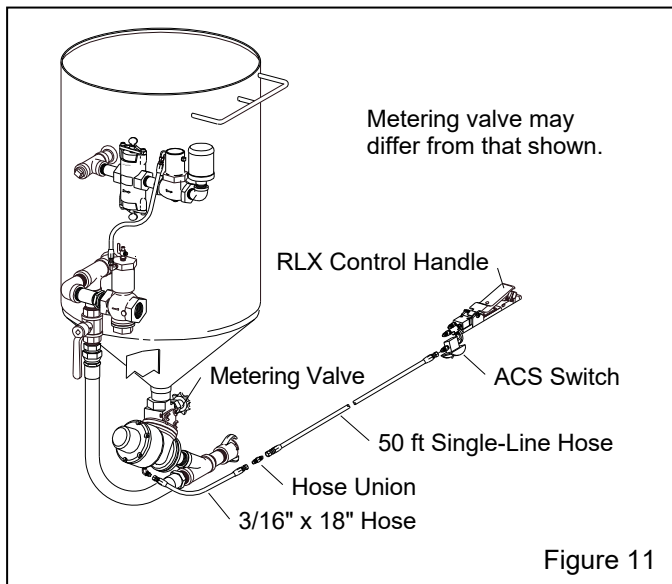

Figure 11
2.4 Set Up for Optional ACS Feature – Figure 11